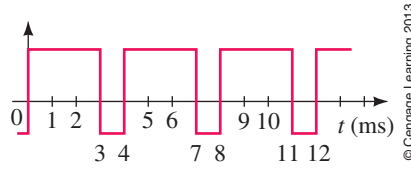

FIGURE 11–63
41. Determine the rise time, fall time, and pulse width for the pulse in Figure 11–64.